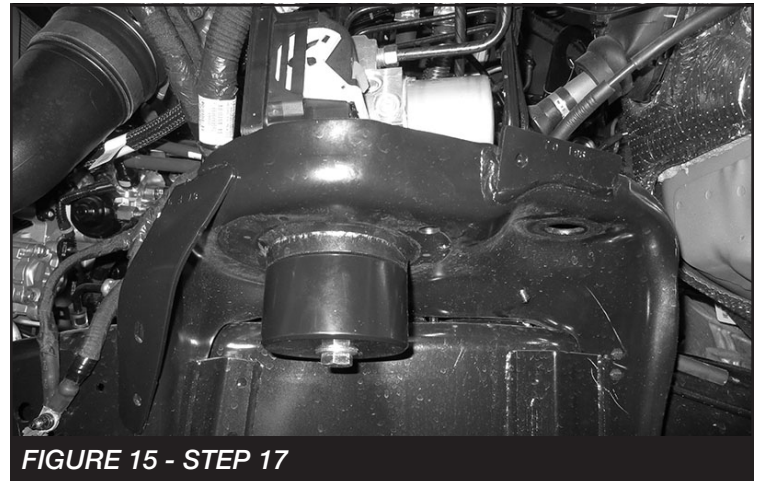

FIGURE 15 - STEP 17
17. Install FT44356BK (Coil Retainer) to the bottom of the upper coil spring mount using a 1/2" washer and c-lock nut. Torque to 106 ft-lbs. **SEE FIGURE 15**